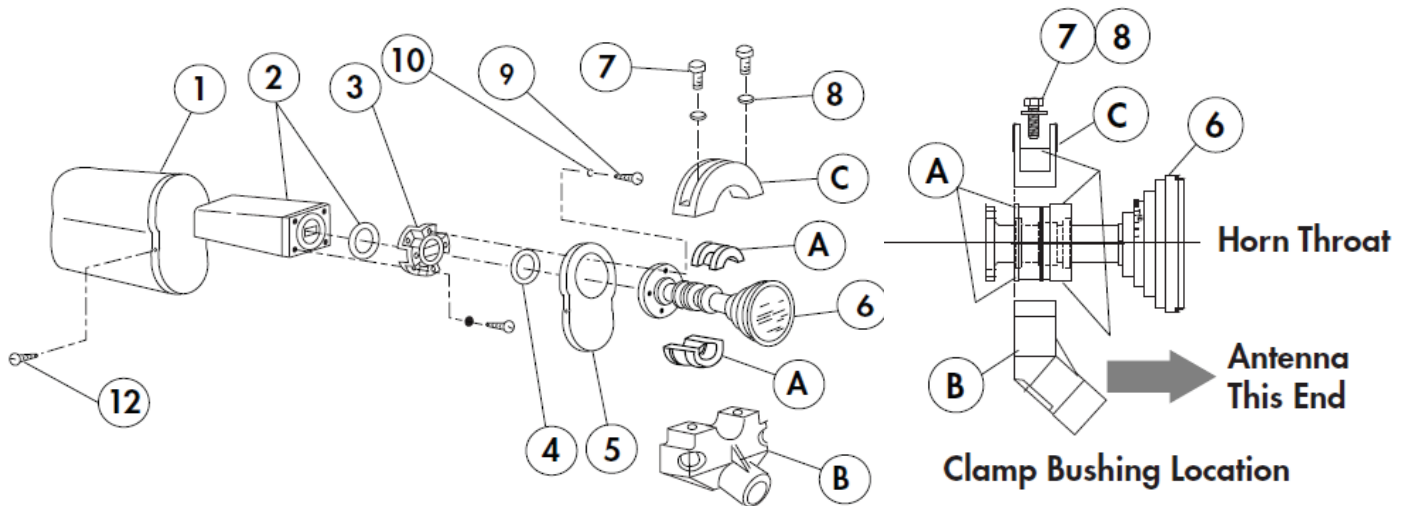

FIGURE 1 FEED HORN & LNB ASSEMBLY
- Antenna with feed legs and junction block (B) should be assembled per instructions supplied with the antenna.
- Assemble LNB (item 2, not included) to transition (3) using the hardware and O-ring supplied with LNB. (Fig. 1). Tighten screws securely.